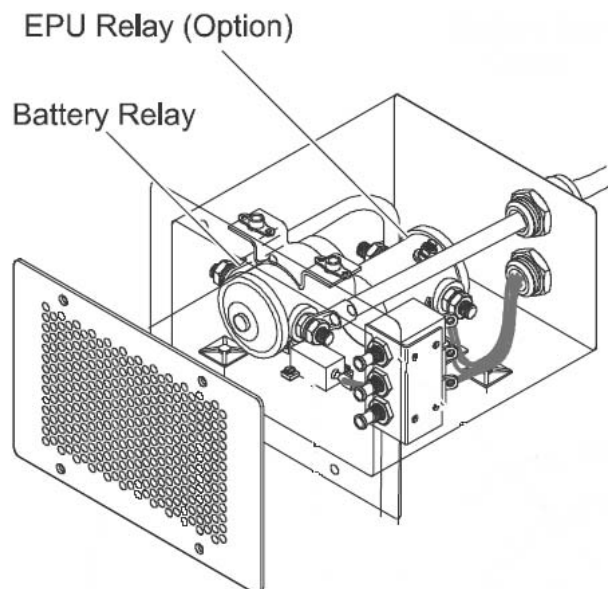

Figure 1: Relay Box
10.1.1 Remove the battery and/or EPU relay contactors in accordance with AMM DA201-C1, Chapters 24-31-00 and 24-40-00. See Figure 1 for relay locations.